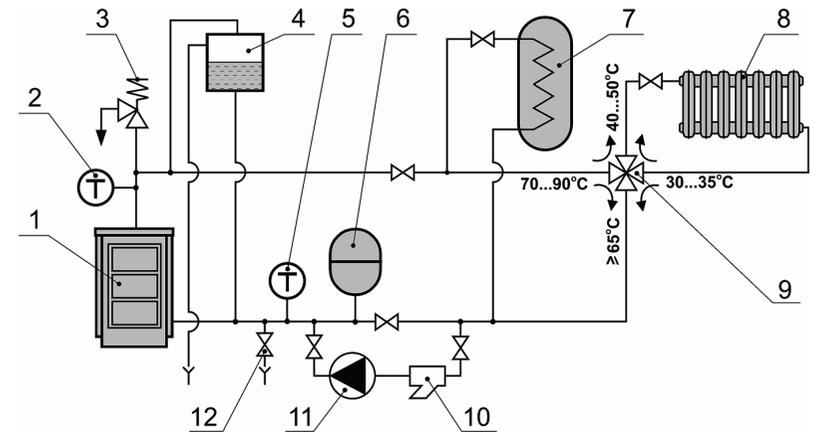

Fig. 3. Recommended connection scheme
**4.3. Requirements for connection to heating system (Fig. 3):**